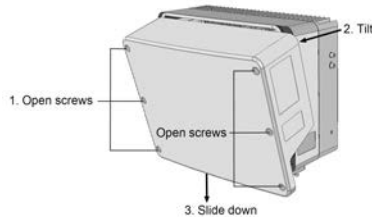

Figure 17: Removing the inverter cover
5. Open the inverter cover (see *Figure 17*).